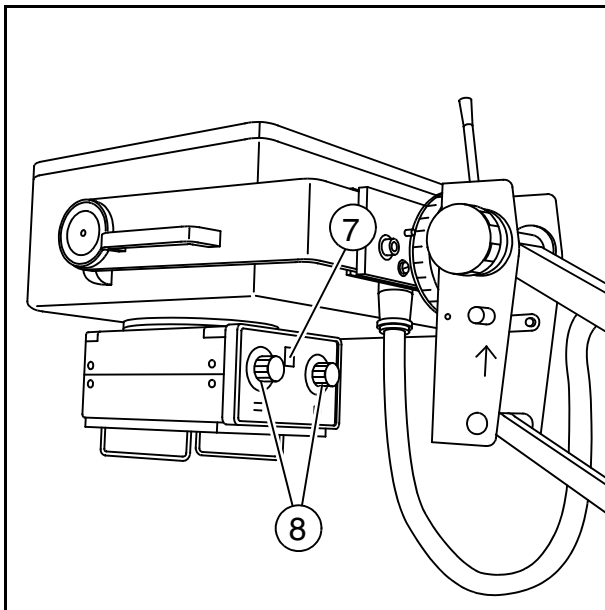
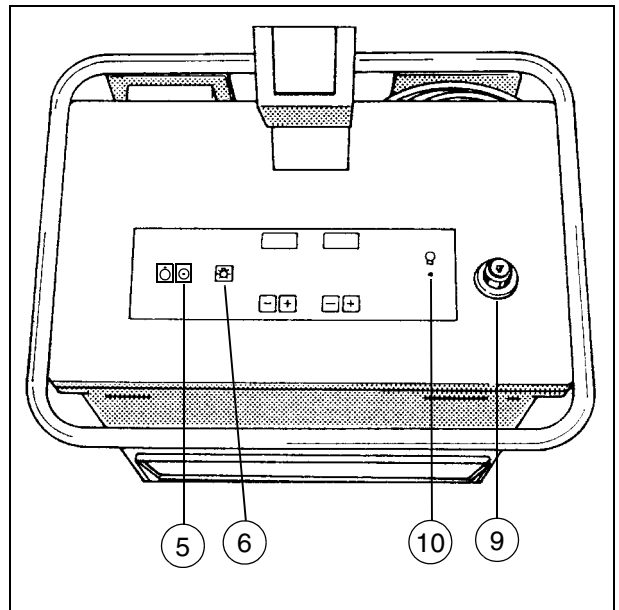

Fig. 3
Fig. 4
- Press the ON button on the control console  (5/Fig. 4).
To do this press the button  (6/Fig. 4 or 7/Fig. 3); the light localizer lamp lights up for 20 s ± 1s.
-  By turning the diaphragm setting knobs (8/Fig. 3) check the easy movement and uniformity of the format setting (leaf pairs).
- Pull out the exposure release switch (9/Fig. 4) completely.
The radiation indicator (10/Fig. 4) lights up for the duration of the exposure, an acoustic signal sounds at the same time.
-  Check that the cable of the exposure release switch (9/Fig. 4) rolls back in without difficulty after it is pulled out.
To do this: Release exposure. The radiation indicator (10/Fig. 4) lights up.